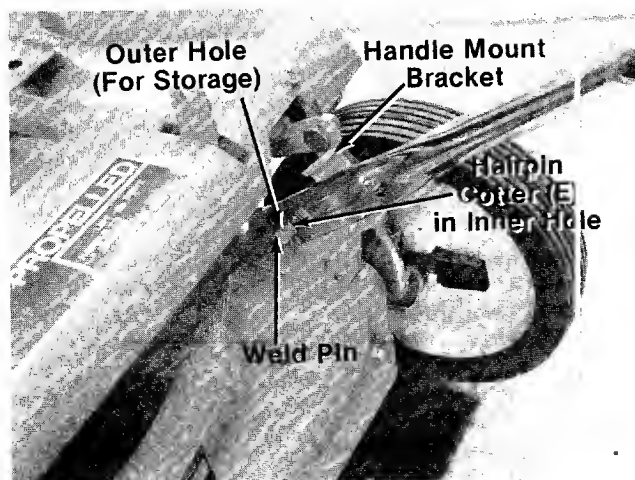

FIGURE 2.
- B (2) Curved Carriage Bolts 5/16-18 x 1.38" Long
- C (2) Lock Washers 5/16" I.D.
- D (2) Hex Nuts 5/16-18 Thread
- E (3) Hairpin Cotter
- F (2) Cable Ties
- G (1) Ferrule
- H (1) Clutch Rod (Not Shown)
- I (4) Hub Caps (Optional—Not Shown)
3. Place lower handle in position over weld pins in handle mount brackets on deck. Make certain the instruction label on the lower handle can be read from the operating position. Secure by placing two hairpin cotters (E) in inner hole on weld pins. See figure 2.